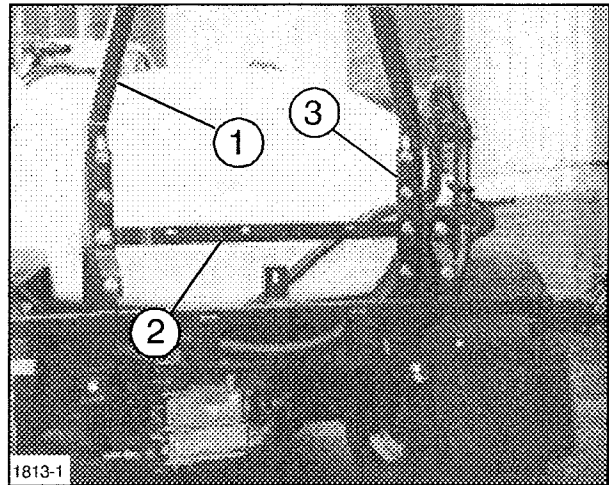

FIG. 2
3. Install the two (2) Boom Hold-In Assemblies to the top of the Boom Mount uprights as shown in FIG. 2, using four (4) 1/2" x 1-1/4" cap screws, and flange nuts.
4. Attach the two (2) "U"-shaped Boom Mounting Brackets and the Valve Mounting Bar to the third and fourth holes from the top of the Boom Mount uprights with four (4) 1/2" x 1-1/4" cap screws, and flange nuts. Torque to 75 ft-lbs (102 N-m).